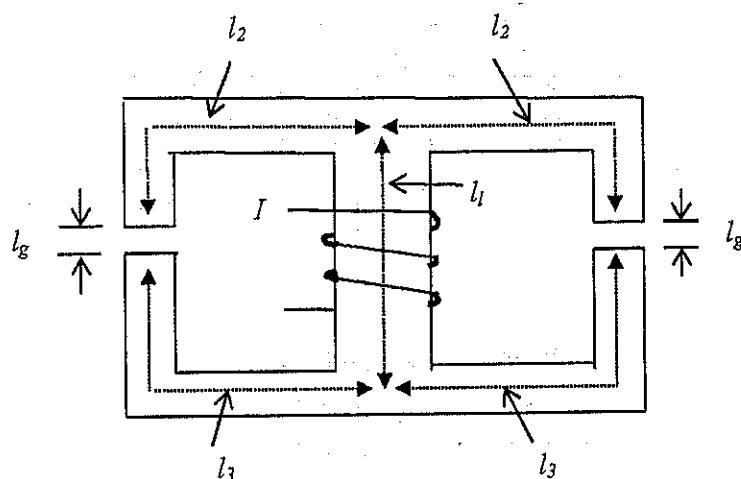

Figure 1
1. (a) A magnetic circuit with the specified dimensions is as shown in Figure 1 on page 2. The center limb has a winding of 500 turns and there are air gaps in the left and right limbs as shown. The mean lengths of the various magnetic sections are $l_1 = 100$ cm, $l_2 = 79.85$ cm, $l_3 = 120$ cm and $l_g = 1.5$ mm. The center limb has a cross-sectional area of 32 cm^2 and each of the side limbs has a cross-sectional area of 16 cm^2 . The magnetization curve for the material is given by the following:
- (i) Let ϕ_c be the flux in the center limb and ϕ_g be the flux in the air gaps. Using the magnetic equivalent circuit of Figure 1, determine the exciting current I required to produce a flux of 0.4 mWb in each air gap. You may neglect leakage and fringing in your calculations. The permeability of free space μ_0 is $4\pi \times 10^{-7} \text{ H/m}$.